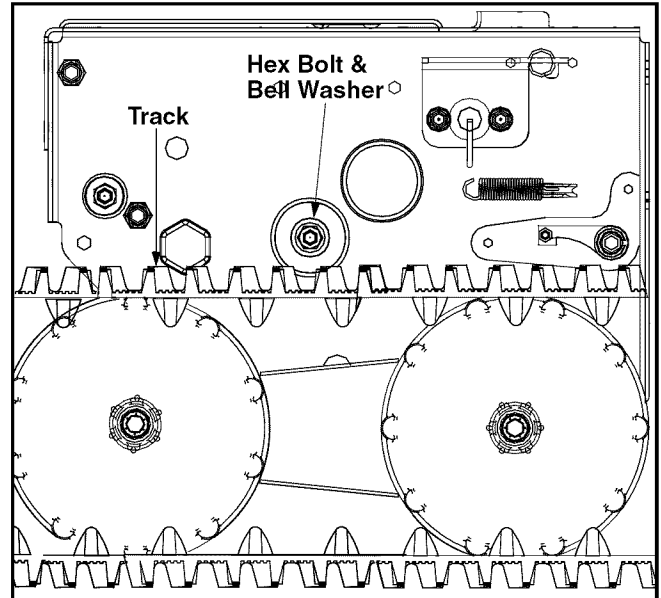

Figure 19
- Using a 7/8" wrench to hold the shaft, loosen, but do not completely remove, the hex bolt and bell washer on the left end of gear shaft. See Figure 19.